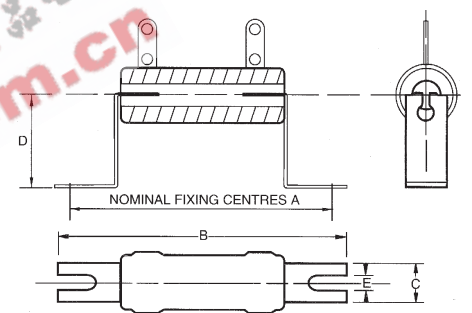

Figure 12
**Table 7 Mounting brackets dimensions (mm).** See Fig. 12.